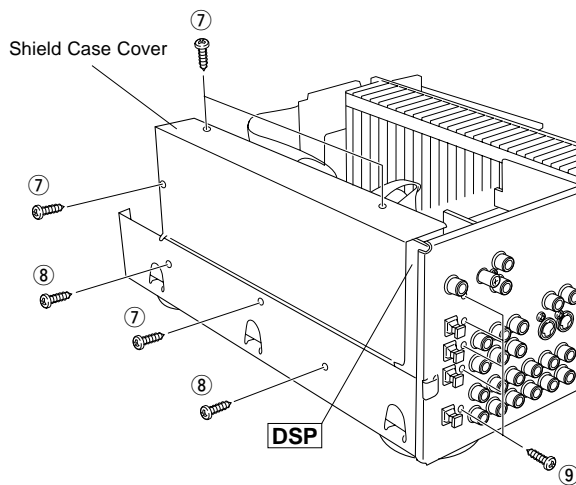

Fig.3
- a. Remove 4 screws (⑦) and then remove the Shield Case Cover in Fig. 3.
- b. Remove 7 screws (⑧ and ⑨) and then remove the DSP P.C.B. in Fig. 3.